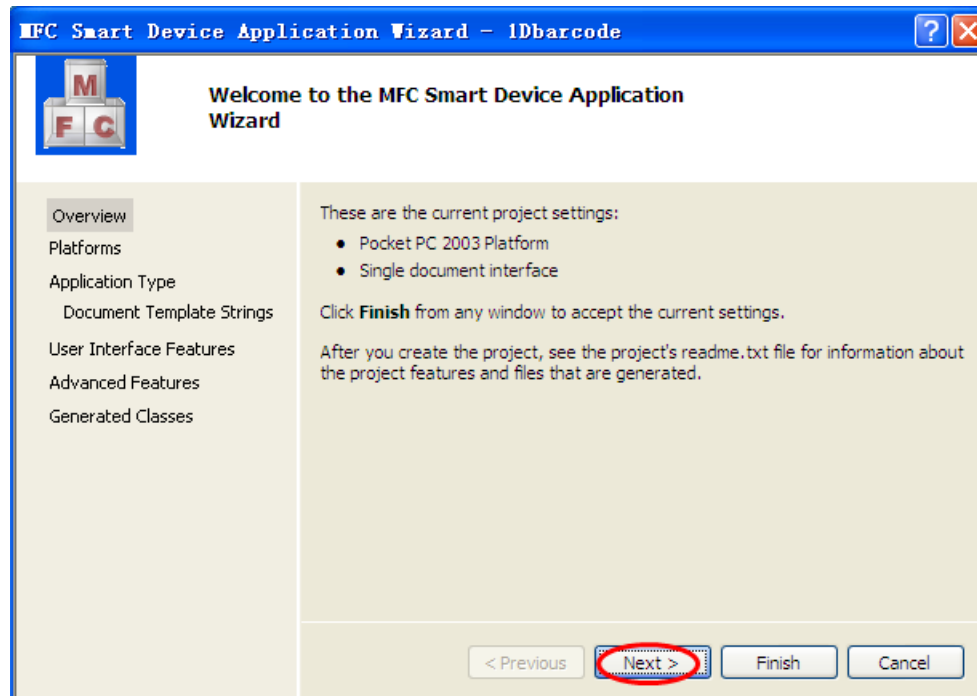

Figure6-1-12
4) Click **OK** to enter **Win32 Application Wizard** as Figure6-1-12.